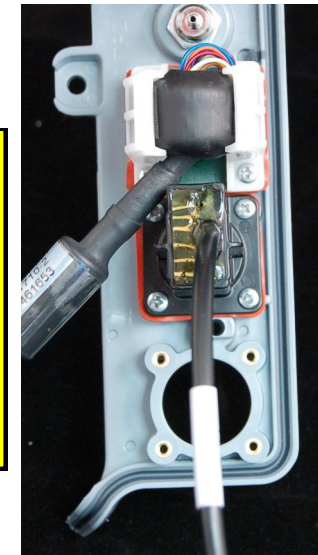

Figure 10.121—Temperature cable parts and screw locations
1. Place the temperature connector and new gasket (3007998-00) into the second connector mounting hole up from the bottom of the parameter bezel. Secure the temperature connector with four new screws (3207337-312); torque to 6.8 in-lb. (See Figure 10.121 on p. 477 for connector orientation.)